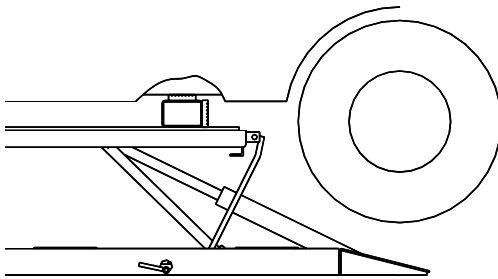

Fig 5 Optional Spacer Pads
- D. Use optional 4 3/4" and 6 3/4" spacer pads if additional height between lift and vehicle is required to clear underbody parts as shown in Fig. 5.